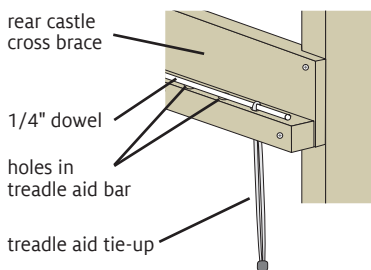

FIGURE 8: TREADLE AID
21. The treadle aid prevents shafts from floating. The treadle aid bar is already attached to the rear castle cross brace. Install the 1/4" treadle aid dowel and 10 treadle aid tie-ups onto this bar: Starting at one end of the bar, push a treadle aid tie-up up through one of the holes (an opened paper clip can be helpful) and loop it over the dowel (Figure 8). Continue across the entire treadle aid bar. After you attach tie-ups to the treadles, attach treadle aid tie-ups in the same way. We recommend connecting treadle aid tie-ups on all of the treadles if you notice that shafts are floating.